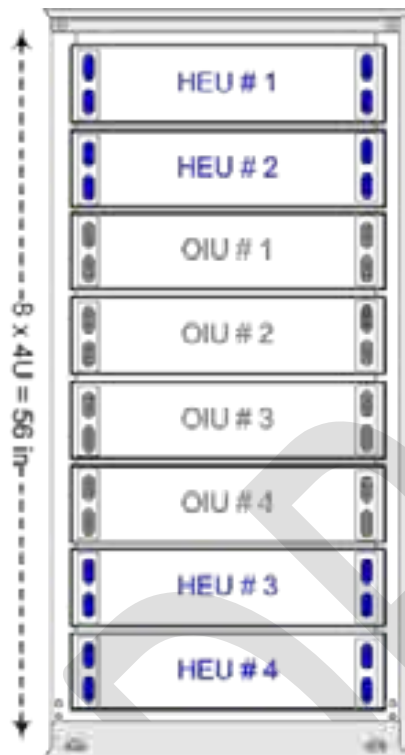

Figure 5-1. 4x4 Installation Diagram – Dedicated
1. Determine the location of the HEU in the rack while considering additional headend units and the lengths of the available ERFC cables. Figure 5-1 and Figure 5-2 illustrate the optimal rack installations for a maximum 4x4 HEU-OIU configuration in shared and dedicated equipment scenarios.